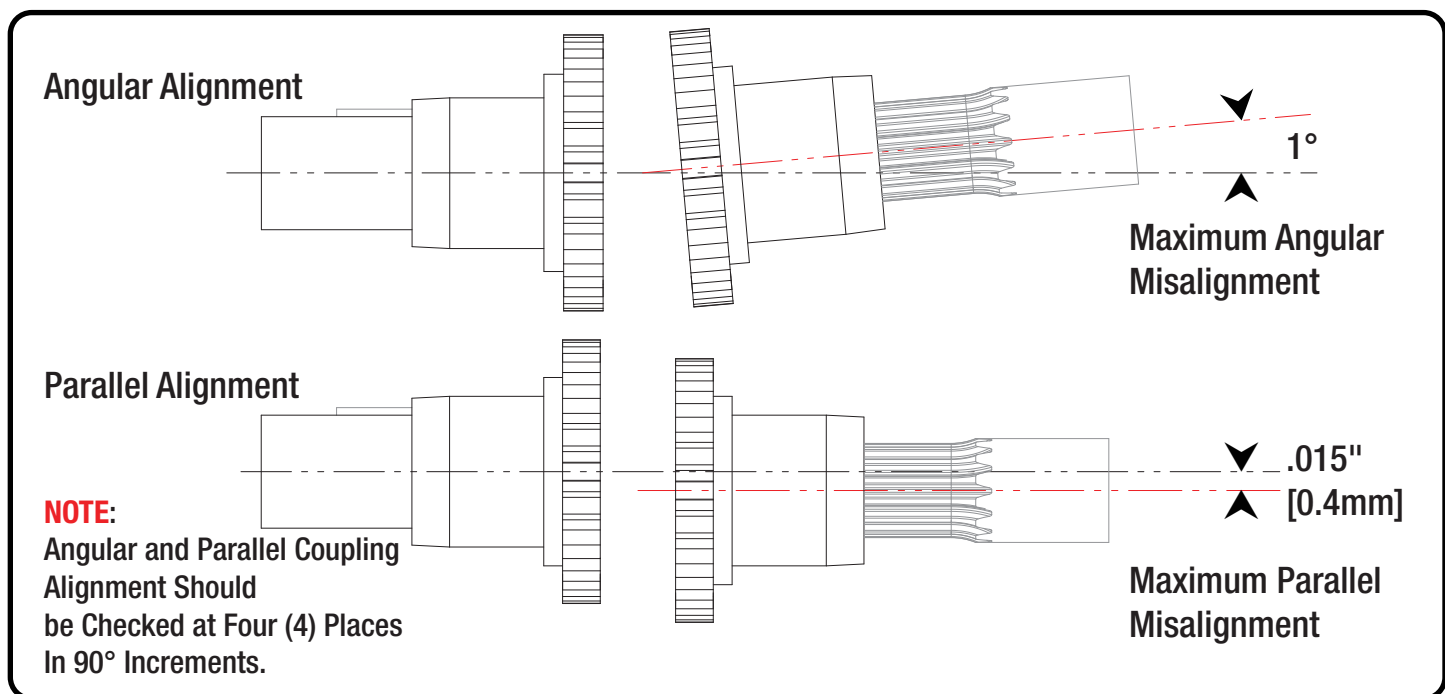

Figure 5
3. Misalignment of pump and driver shafts can be angular and/or parallel as shown in figures below. Maximum angular offset in the two coupling halves cannot exceed 1 degree; parallel offset cannot exceed 0.015" [0.4mm]. Loosen mounting bolts of pump and driver, make alignment, and re-tighten bolts to proper torque rating provided by coupling manufacturer. See Figure 5 below.